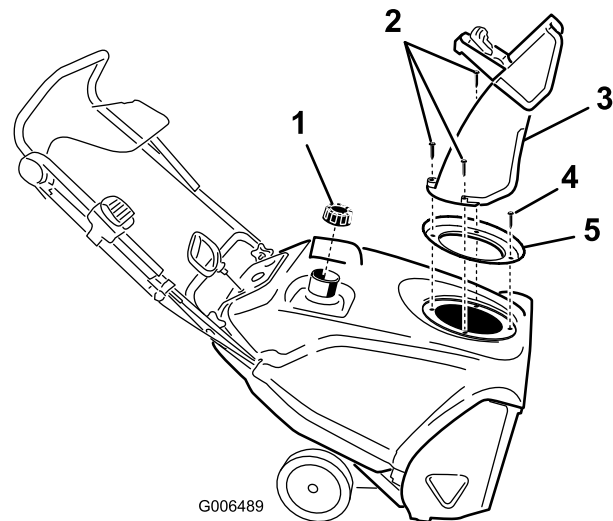

Figure 24
- Remove the discharge chute, the discharge chute handle, and the chute seal by removing the 3 large screws and one small screw (Figure 24).
- Remove the 4 screws that secure the shroud (Figure 24).